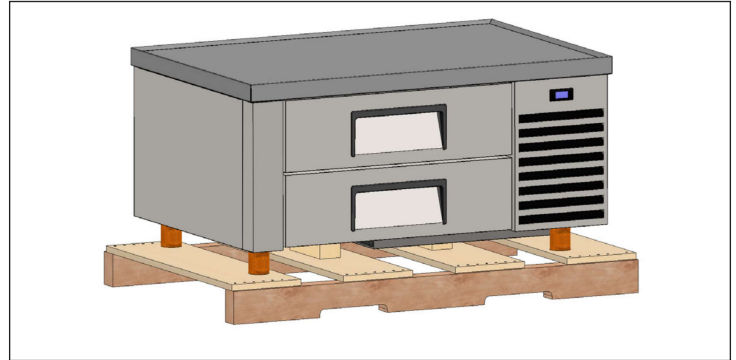

Fig. 1. Remove the exterior packaging.
1. Remove the outer packaging (cardboard and bubble wrap or Styrofoam corner and clear plastic). See fig. 1.